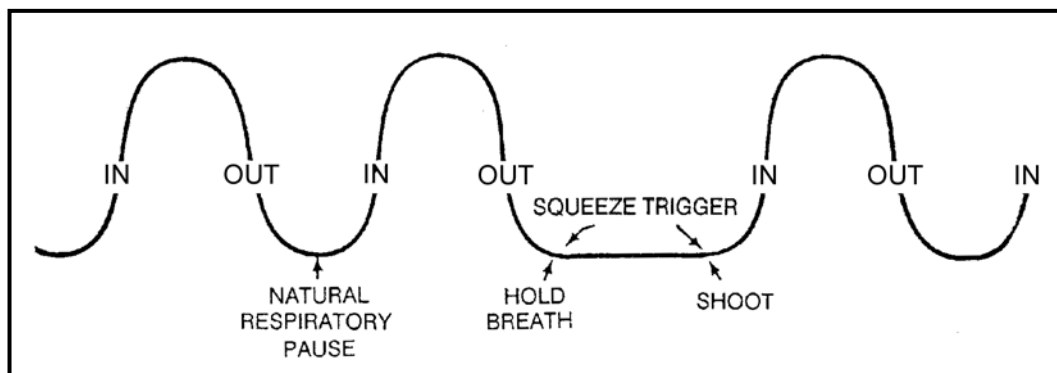

Figure 4-20. Breath control for engaging single targets.
(1) The first technique is used during zeroing (and when time is available to fire a shot) (Figure 4-20). There is a moment of natural respiratory pause while breathing when most of the air has been exhaled from the lungs and before inhaling. Breathing should stop after most of the air has been exhaled during the normal breathing cycle. The shot must be fired before the soldier feels any discomfort.